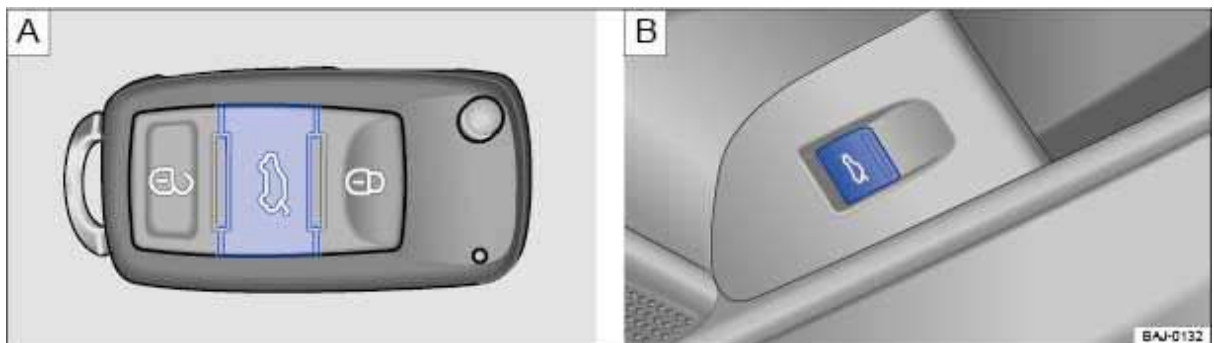

Fig. 30 A: Button in the remote control vehicle key to unlock the rear hatch. B: Button in the driver door to unlock the rear hatch.
- Briefly press the  button on the remote control vehicle key ⇒ fig. 30 A to *unlock* the rear hatch.
On some vehicles: pull the  switch in the driver door up ⇒ fig. 30 B. The rear hatch is unlocked.
- If the rear hatch of a locked vehicle is unlocked with the  button ⇒ fig. 30 A on the remote control vehicle key, it will lock about 20 seconds after it is closed again. The anti-theft alarm system is activated after the vehicle is locked